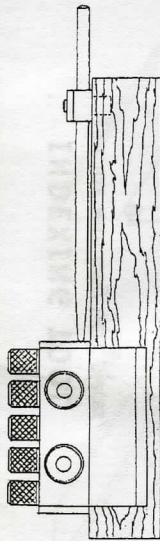

Fig. 14
5. Remove Dowelmax, insert cylindrical locating pin of distance gauge into drilled hole and adjust length of pointer as required (see Fig. 14)